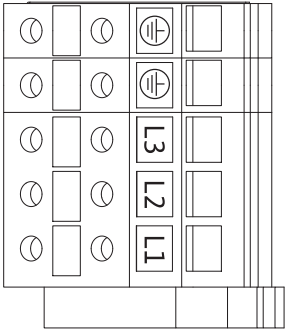

Fig. 26: Borne electrice (borne de rețea)
- Borne electrice (borne de rețea) (Fig. 26)